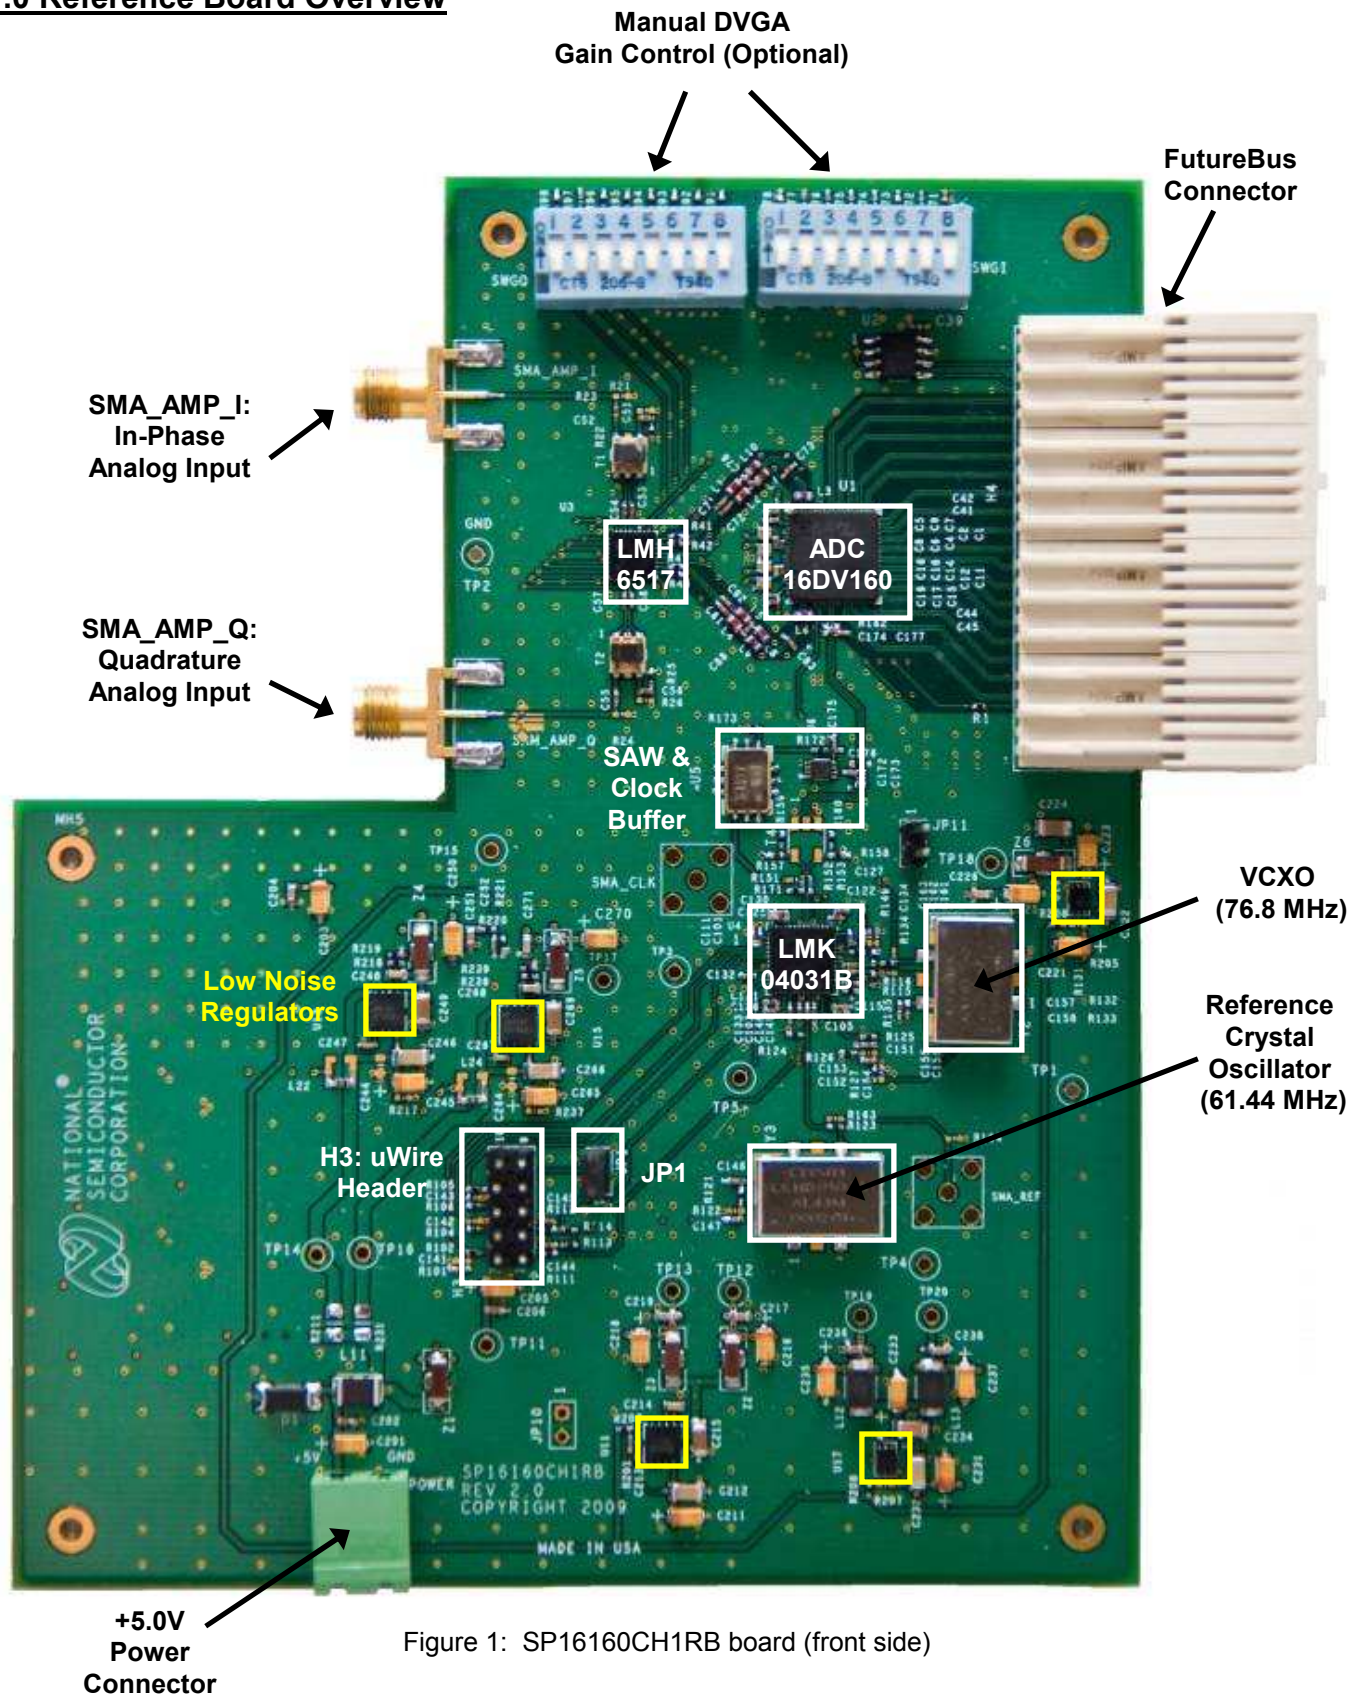
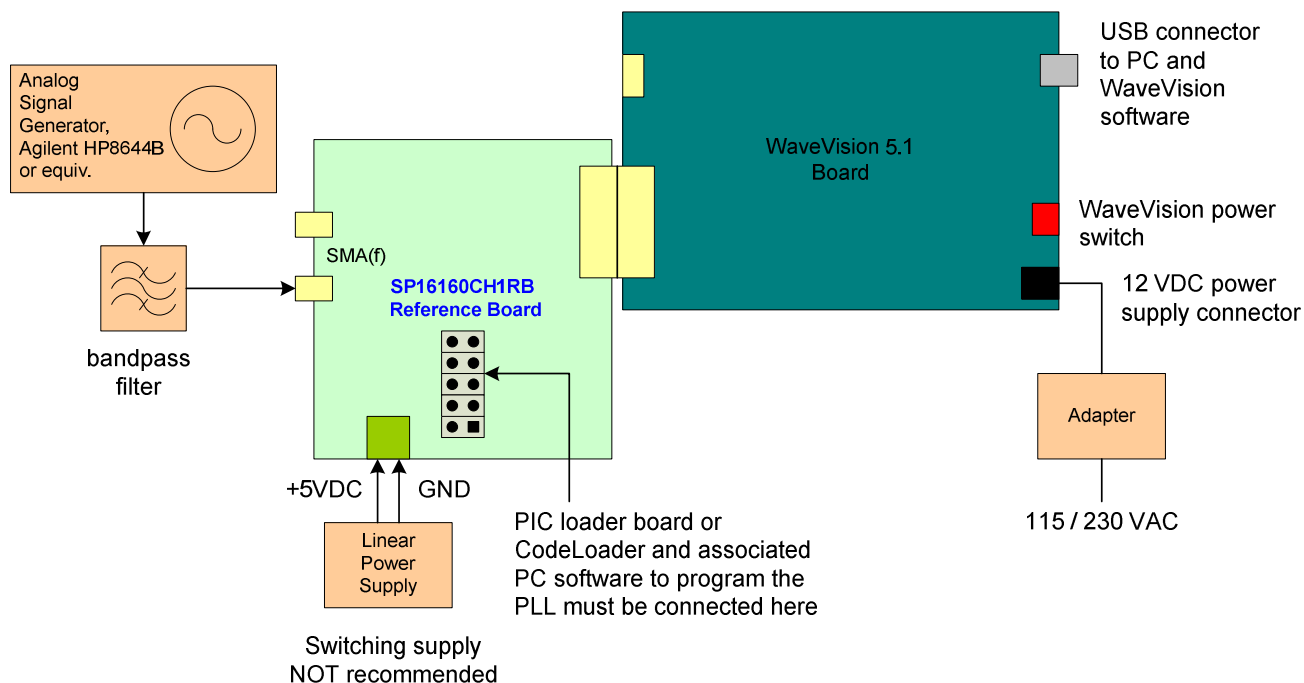

Figure 1: SP16160CH1RB board (front side)
Figure 4: Connection diagram for the SP16160CH1RB board and WaveVision 5.1 data capture hardware
- Connect the WaveVision 5.1 Digital Interface Board to your PC through the supplied USB cable and apply power to the WaveVision 5.1 board through the +12V AC-DC power adapter included in the WaveVision 5.1 hardware kit. The connection diagram is shown in Figure 4.
- Connect the SP16160CH1RB reference board to the WaveVision 5.1 board through the FutureBus connector as shown in Figure 4. The SP16160CH1RB reference board should not be powered up, as the WaveVision hardware does not support hot-swapping of boards.
- Connect a 5.0V power supply capable of sourcing up to 1A to the green, 2-terminal power connector located along the side edge of the SP16160CH1RB board. This is shown in Figure 4. Ensure that the polarity of the wires going to the green power connector match the "+5V" and "GND" labels on the reference board. After the polarity is verified, turn on the 5V supply.
- Connect the signal source to the "SMA\_AMP\_I" SMA connector indicated in Figure 1. The recommended signal generators are the HP8644B (HP/Agilent) or the SMA100A (Rohde & Schwarz). A bandpass filter between the signal generator output and the SP16160CH1RB SMA connector is required to measure the true performance of the board. A Trilithic bandpass filter is recommended. See Figure 4.